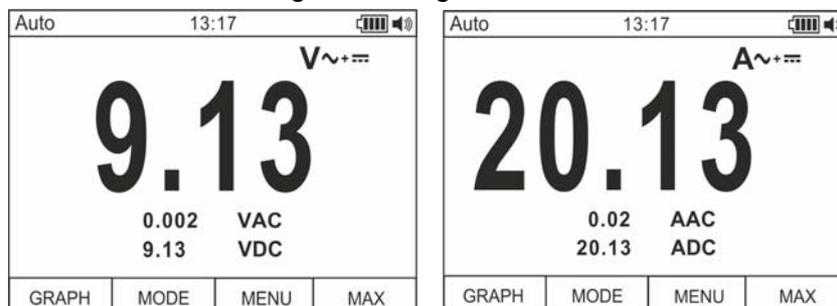

Fig. 3: AC+DC voltage or current measurement description
2. Press the **F2** key selecting the “ $V_{\sim}$ ” or “ $A_{\sim}$ ” modes (see Fig. 3)